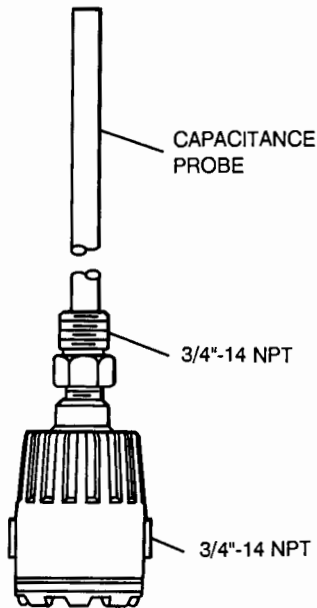

FIG. 12 – LT-106 LIQUID LEVEL SENSOR
1. Place the LT-106 on the floor with the probe pointing upward. (Refer to Fig. 12).